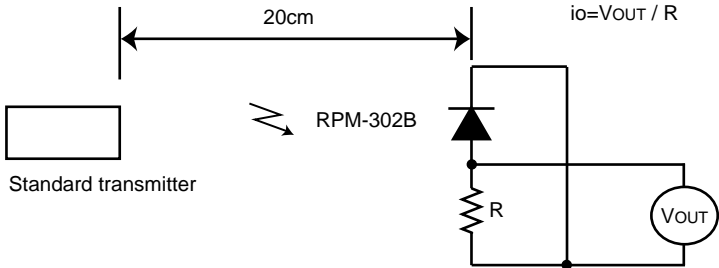

Fig.2 Measurement of standard transmitter proofreading
When standard transmitter output the signal at Fig.1 standard photodiode output become  $i_o=5\mu A_{p-p}$  under the measurement condition Fig.2.
- (1) All characteristics of the receiver in this specification are specified by supplying burst wave form (Fig.1) with ROHM standard transmitter (Fig.2).